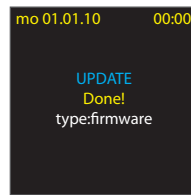
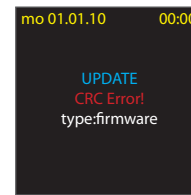

fig. 5
fig. 6
7. Upon successful transmission, the check sum total of CRC is recalculated. Data compliance is indicated by means of message „Done!“ (Figure 5). In case of data incompliance the report „CRC Error“ occurs (figure 6) and the whole transmission must be repeated from point 5.